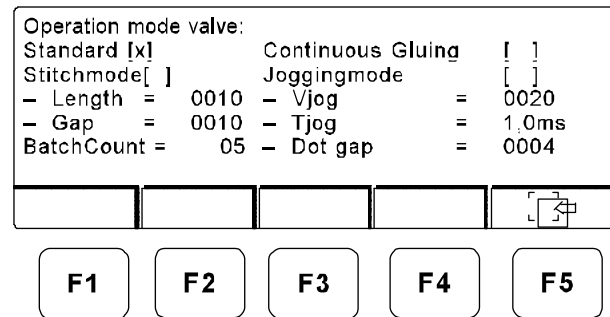

Figure 9-5. Mode-Selection Screen
2. Press the ENTER button. The mode-selection screen displays (Figure 9-5).